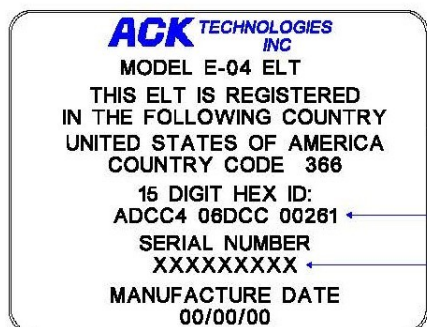

FIGURE 15
5.) When filling out the registration the hex code identifier may also be found on the front right side of the ELT. (Fig 15)